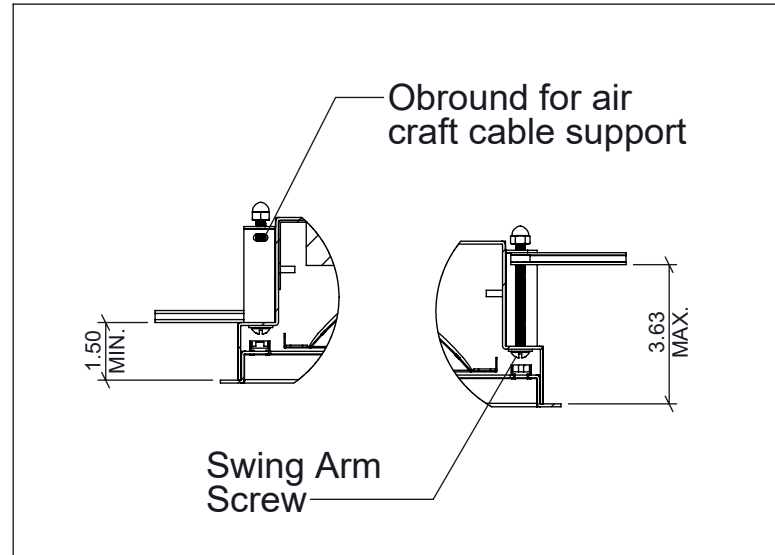

Figure 6
6. Rotate Swing Arm Screws to adjust the height of the Swing Arms as needed (Fig. 6).